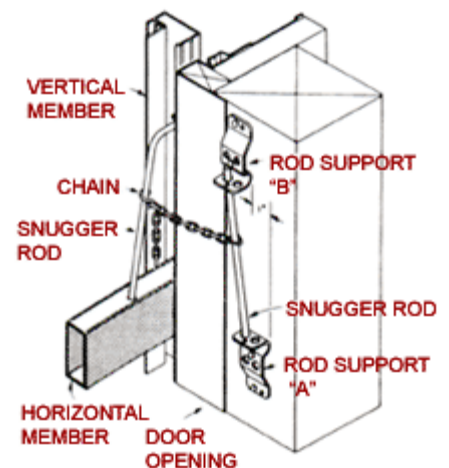

FIGURE 16
- 6.) Secure rod support "A" to door jamb so as to be level with the horizontal door member as shown in **Fig. 16**. (Rod support fasteners are NOT supplied.)